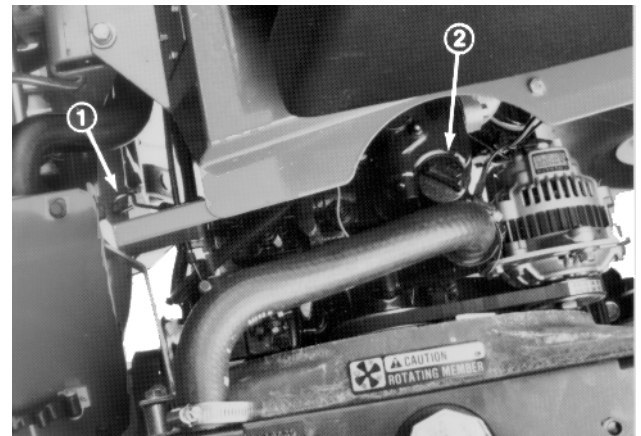

Figure 2
1. Move the machine to a level surface, stop the engine and set the parking brake. Unlatch and open the hood (Fig. 2).
1. Move the machine to a level surface, stop the engine and set the parking brake. Unlatch and open the engine hood (Fig. 2).
2. Carefully remove the radiator cap and the expansion tank cap (Fig. 2).
3. Inspect the coolant level. The radiator coolant level should be to 1 inch (25 mm) below the filler neck and the expansion tank level should be midway between the minimum and maximum marks on its side (Fig. 2).